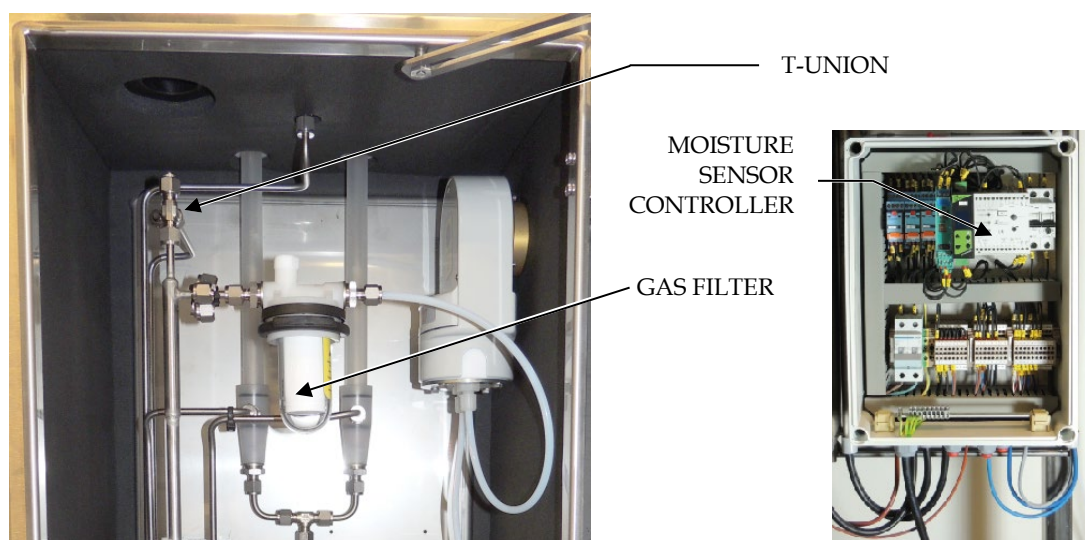

Figure 12 *Disconnect heated sample line to make the system analyse ambient air*
- 1) When scrubber is running and system is sampling, disconnect the heated sample line in SCS to make sure the sample is ambient air. Refer to Figure 12. Refer to Figure 1 for overview of installations.
- 2) Locate moisture sensor controller. Refer to Figure 12.
- 6) Re-connect heated sample line in SCS. Refer to Figure 12.